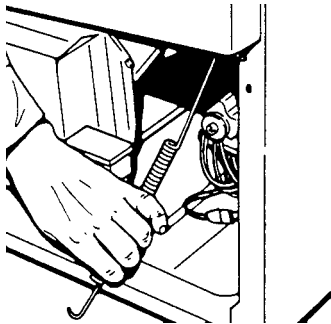

Fig. 36
2. Pull down and unhook and remove the left and right door springs. (Fig. 36)